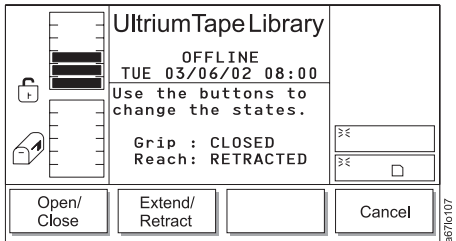

Figure 4-150. Picker Finger Dialog
6. Press the button below the **OK** softkey. The Picker Finger Dialog displays (see Figure 4-150).